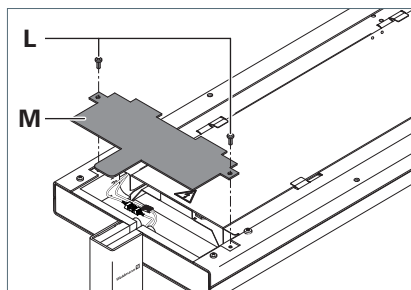

Fig. 17: Mounting the cover
- Place the cover **M** on the light head, see Fig. 17.